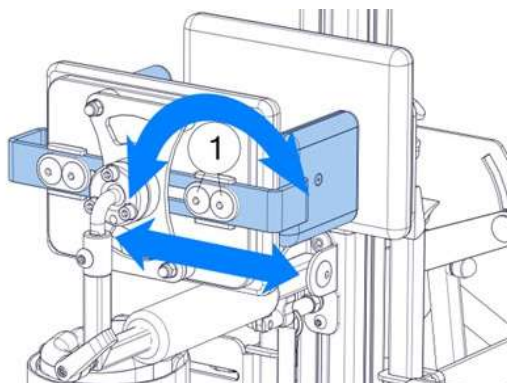

Fig. 37
Fig. 37 Pelvic supports of the back support can be adjusted within the scope of their width, as well as abduction angle. To make the adjustment, loosen the screws (1), set the width of the back and the angle, and then tighten the screws.